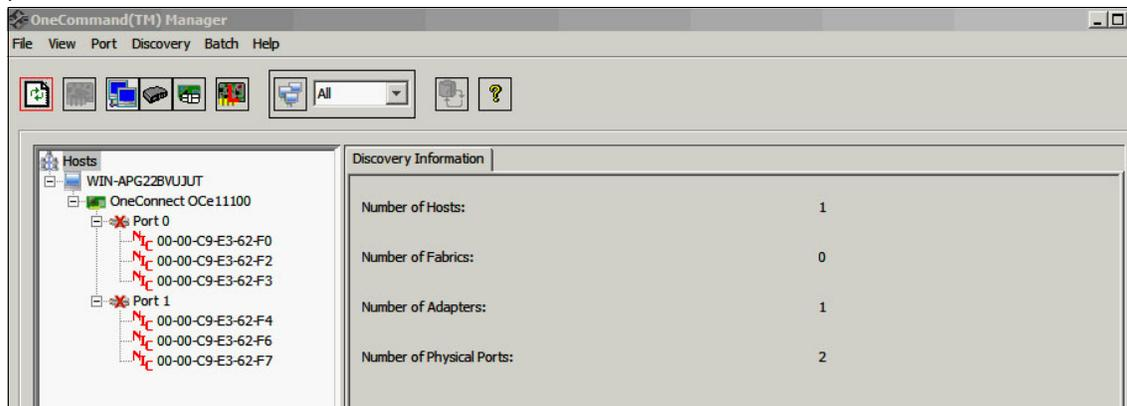

Figure 10-128 OneCommand Manager - Discovery Information
3. Click the adapter that you want update (Figure 10-128).